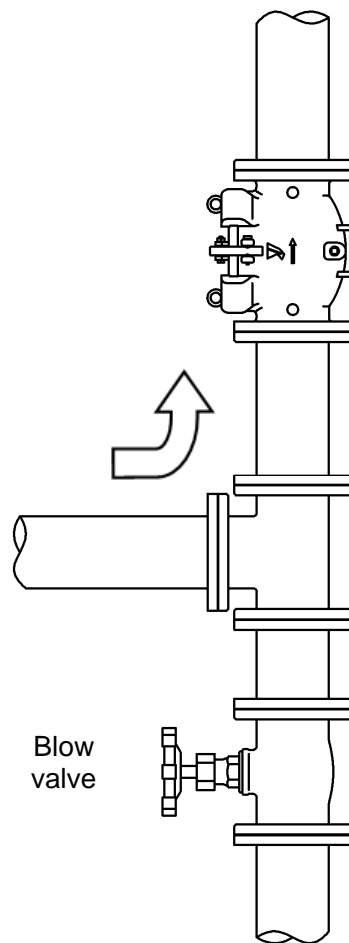

Fig. 3
2. If fluid flows from bottom to top, install a blow valve in order to remove scale accumulated at the bottom of riser pipe (see Fig. 3).